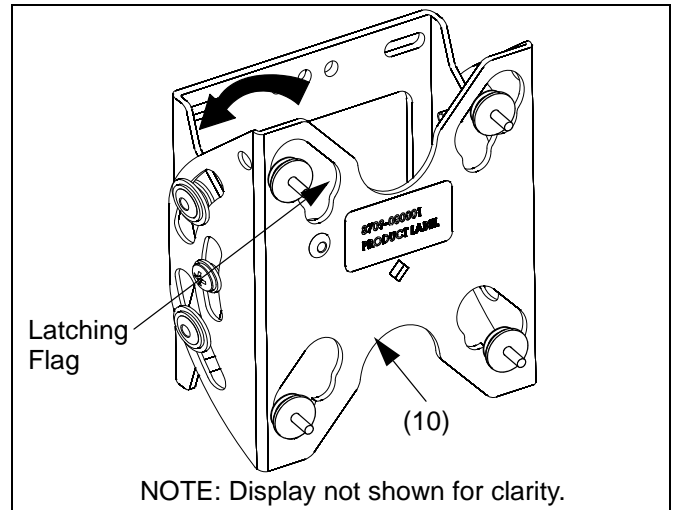

Figure 7: Close Latching Flag
3. Close latching flag by rotating flag counterclockwise on plate (10) (See Figure 7).